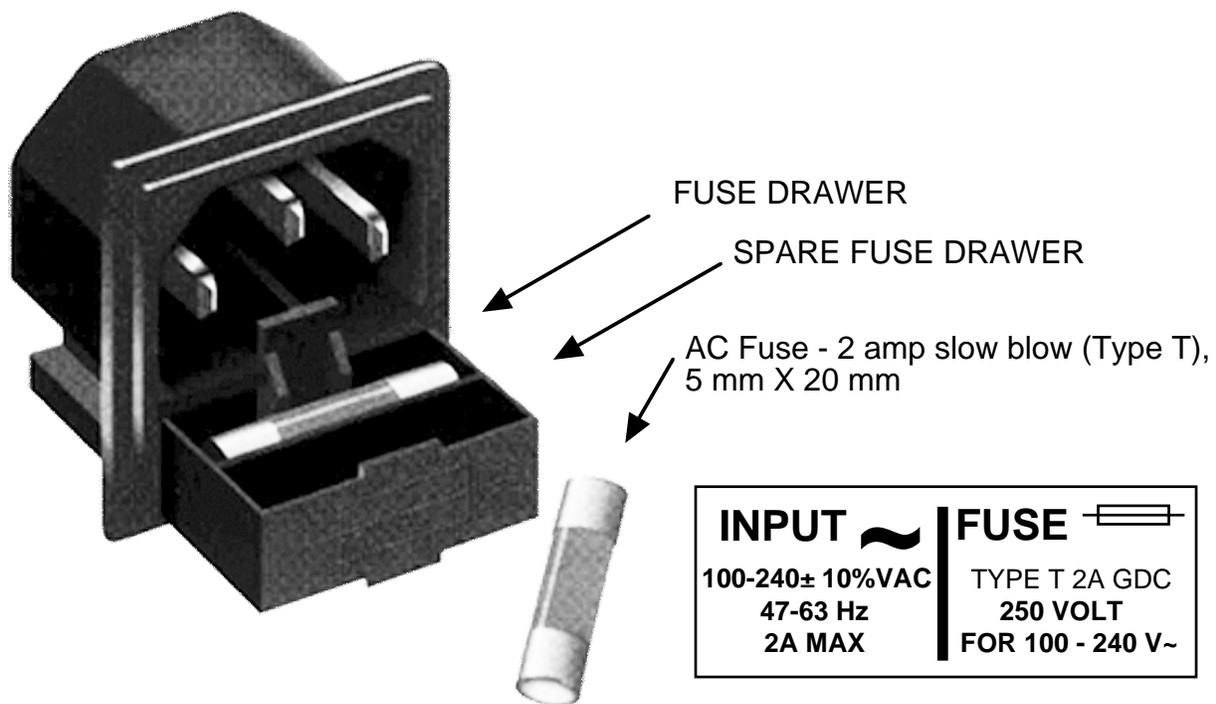

FIGURE 2.4 Fuse Location and Spare Fuse
6. **AC FUSE** - The fuse is a 5 mm X 20 mm, 2 amp slow blow (Type T) and is inserted in the far slot in the drawer below the AC input as shown in Figure 2.4. There is a spare fuse in the near slot. If a fuse continues to open, the power supply is most likely defective.